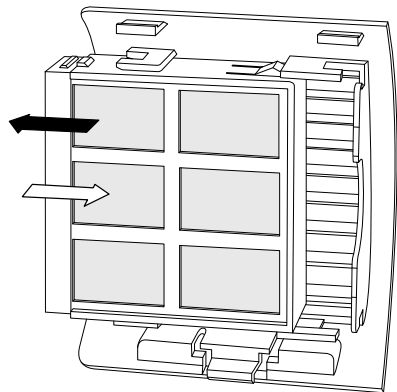

Fig. 47: Sliding out the filter cassette
2. Slide the filter cassette out from the cover of the air inlet, as shown in Fig. 47.